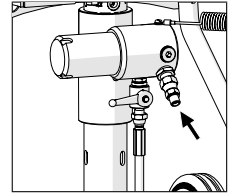

Fig. 15: Connecting the spraying hose to the high pressure filter
1. Connect the spraying hose to the material outlet on the high pressure filter (Fig. 15).